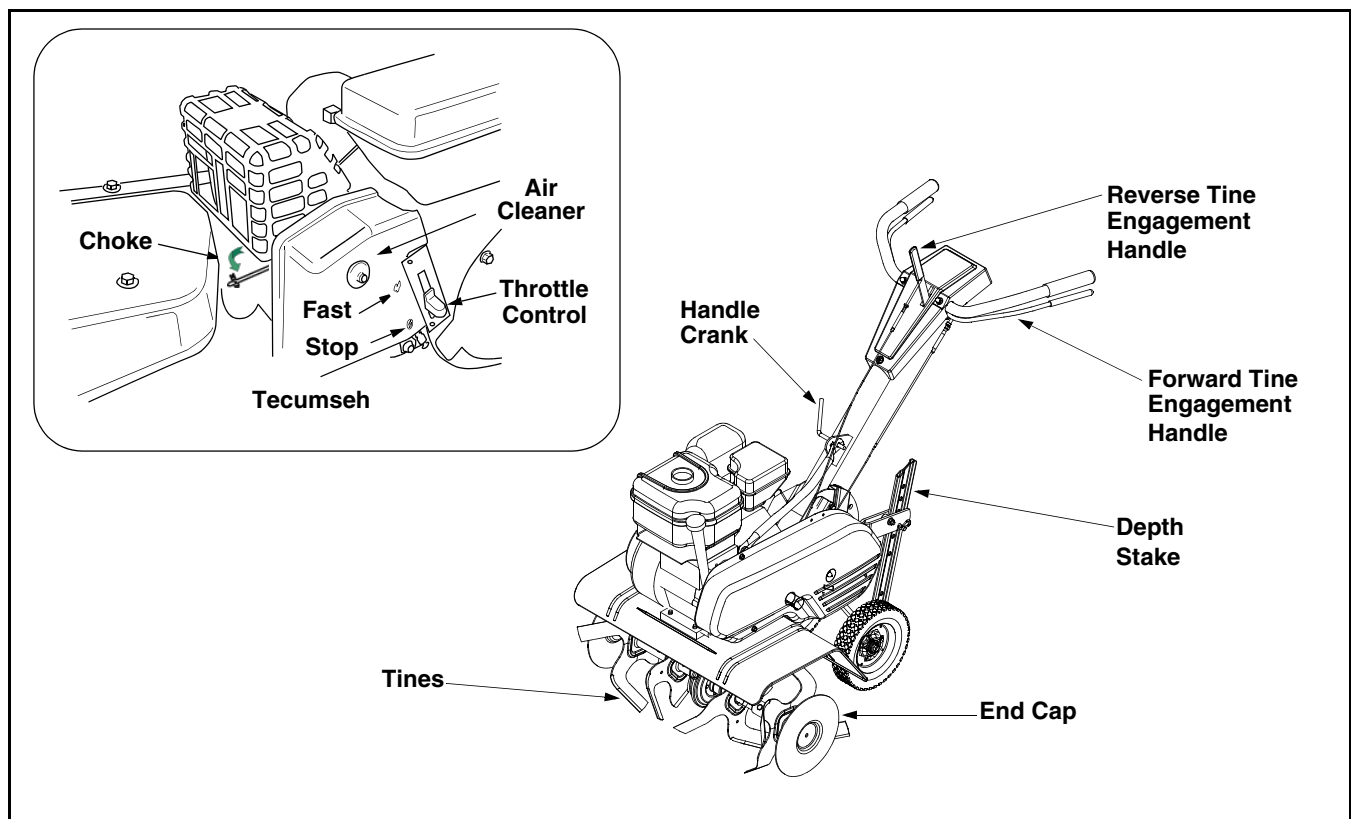

Figure 6
The throttle control lever is located on the engine. It controls the engine speed and stops the engine. See Figure 6.
The choke lever is located behind the air cleaner, under the muffler. It is used to enrich the fuel mixture when starting a cold engine. See Figure 6.
The forward tine engagement handle is located beneath the tiller handle. Squeezing the handle up against the tiller handle engages the tines. Release the handle to stop the tines. See Figure 6
The reverse tine drive clutch lever is located on top of the handle panel. Pull the lever to the rear to move the tines in reverse. Release the lever to stop the reverse tine drive. See Figure 6
- Place the throttle control lever in FAST position. See Figure 6.